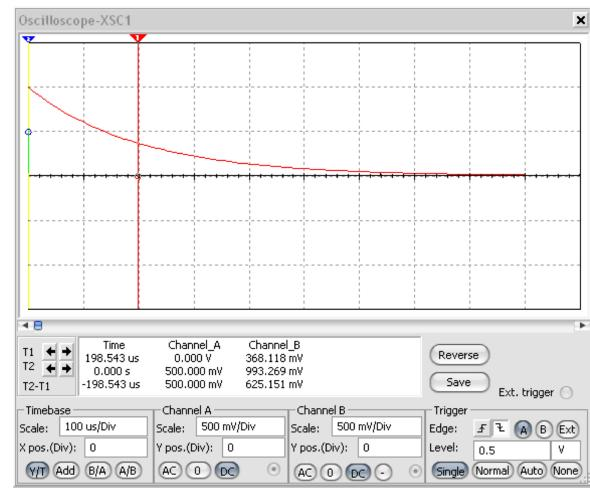

Figure 9: Time Constant Measurement
7. Move the cursor until you get the Channel B voltage as close to  $0.368$  as you can (see Figure 9)